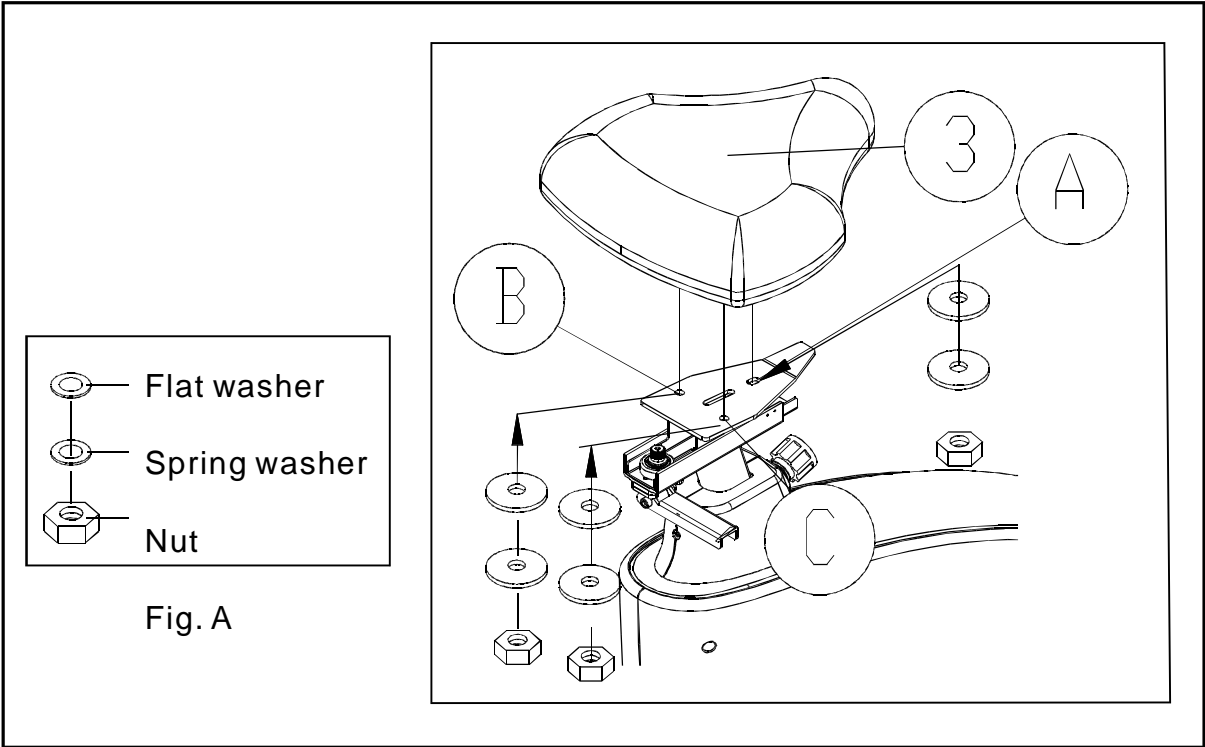

Fig.10
STEP 5. Secure the seat bottom into place. See Figure 10.